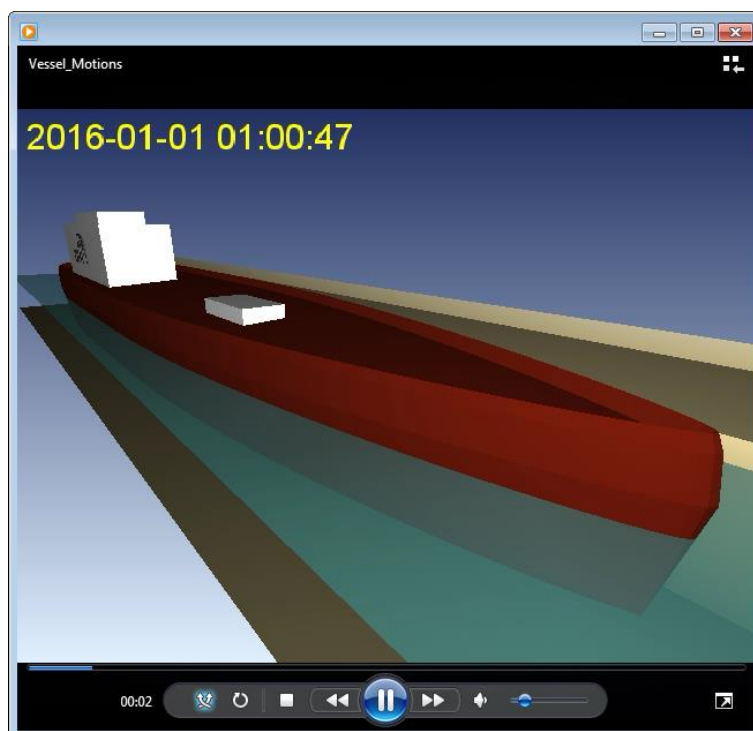

Figure 2.35 Recorded animation as shown in Windows Media Player
16. The resulting animation file **Vessel_Motions.avi** can now be shown in e.g. Windows Media Player as shown in Figure 2.35.